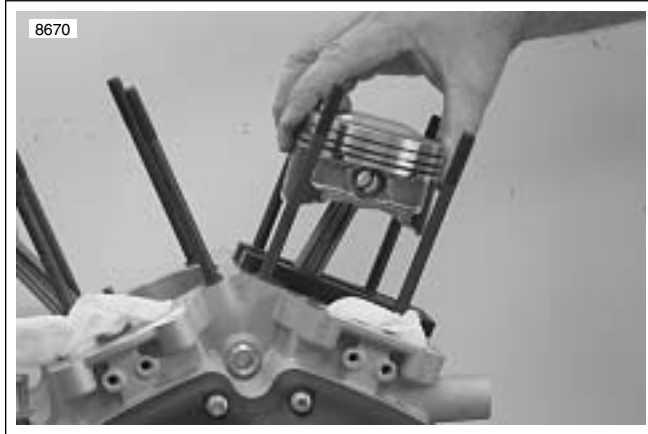

Figure 3-101. Piston Support Plate (Part No. HD-42322)
1. See Figure 3-101. Place PISTON SUPPORT PLATE (Part No. HD-42322) in position as shown.